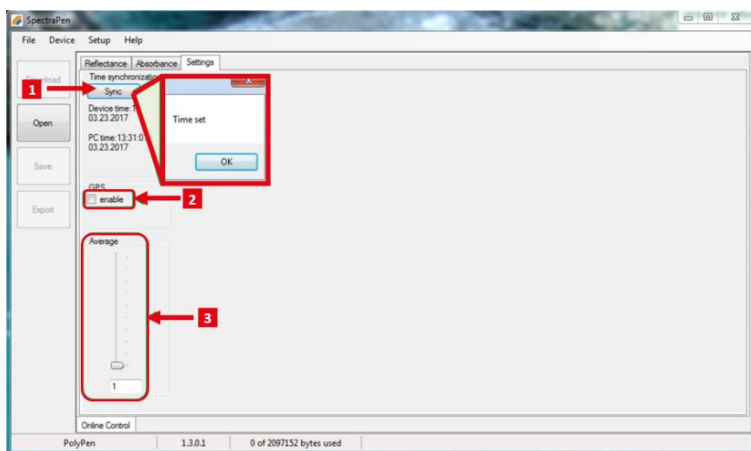

Fig. 25 Settings of online control.
- Time synchronization of the device and PC (Fig. 25 - 1)
- GPS built-in module activation (Fig. 25 - 2)
- Averaging of measurement, set from 1 to 10 measurements (Fig. 25 - 3)